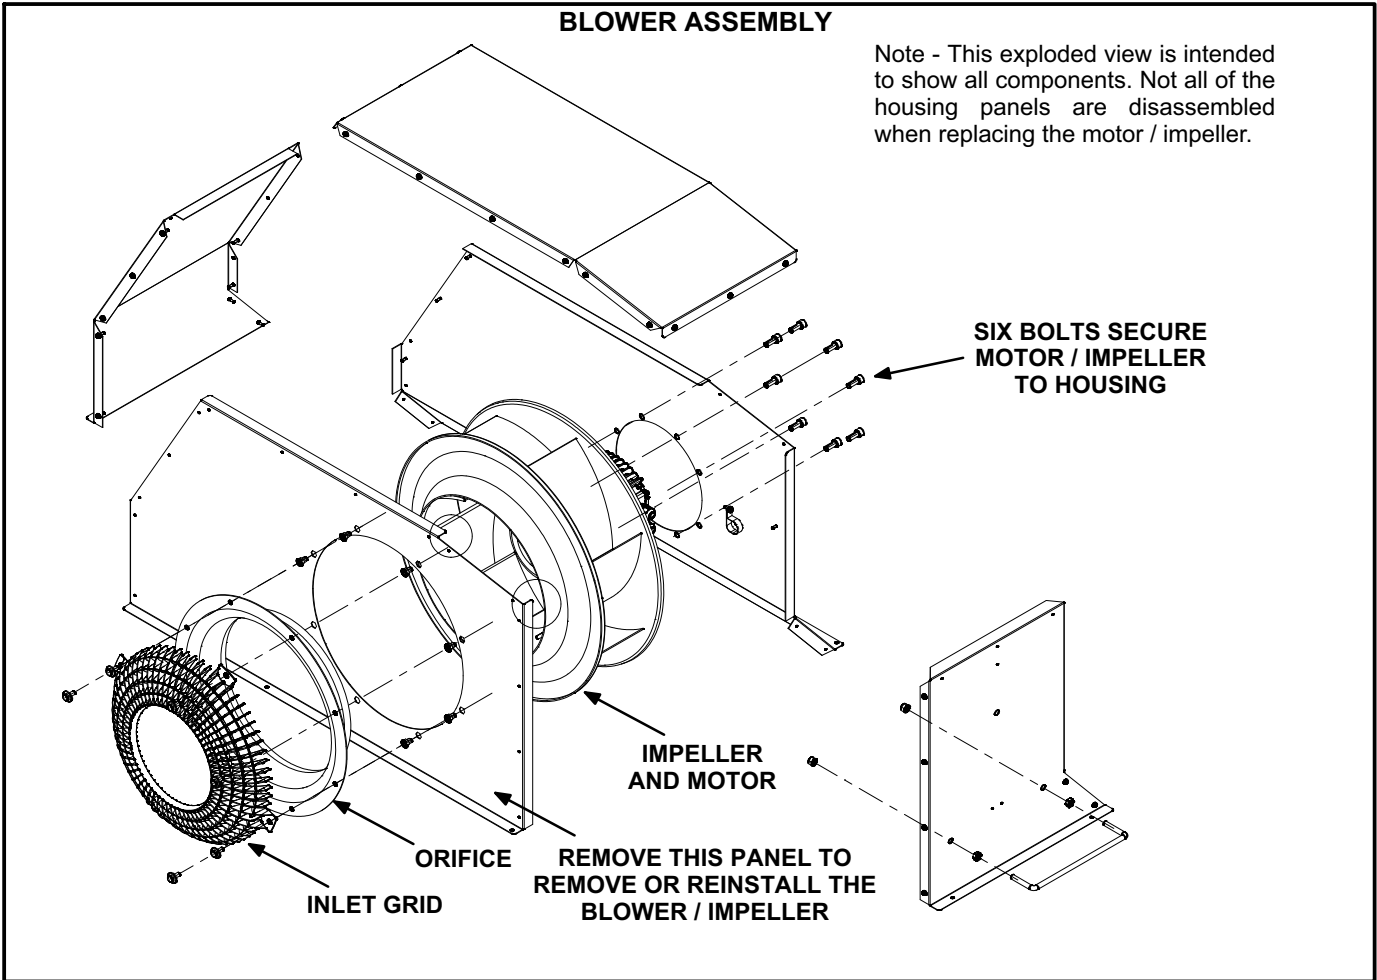

FIGURE 5
- 9- Remove the inlet grill, orifice and the side of the housing shown in figure 5.